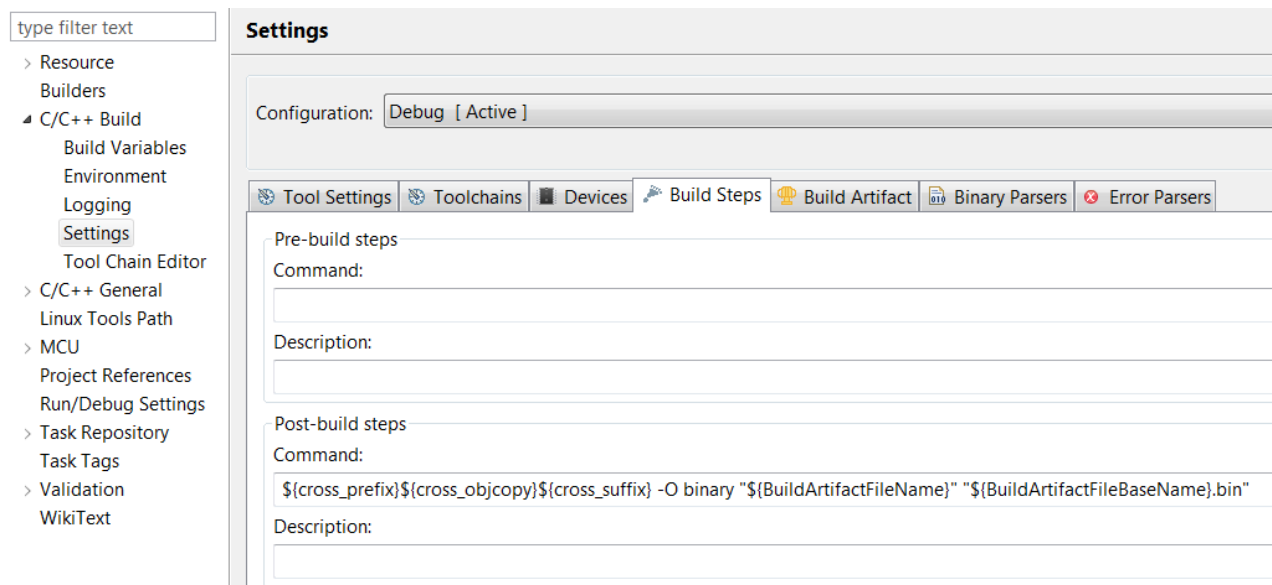

Figure 2. Adding a Post-Build Step
4. Add a post-build step to generate the binary (*.bin*) file required by the bootloader, as shown in Section 2 “Bootloader Firmware” on page 4. In the project settings, navigate to **C/C++ Build > Settings > Build Steps > Post-build steps > Command** as shown below in the figure “Adding a Post-Build Step” \(Figure 2\), and add the following command to generate the binary image: